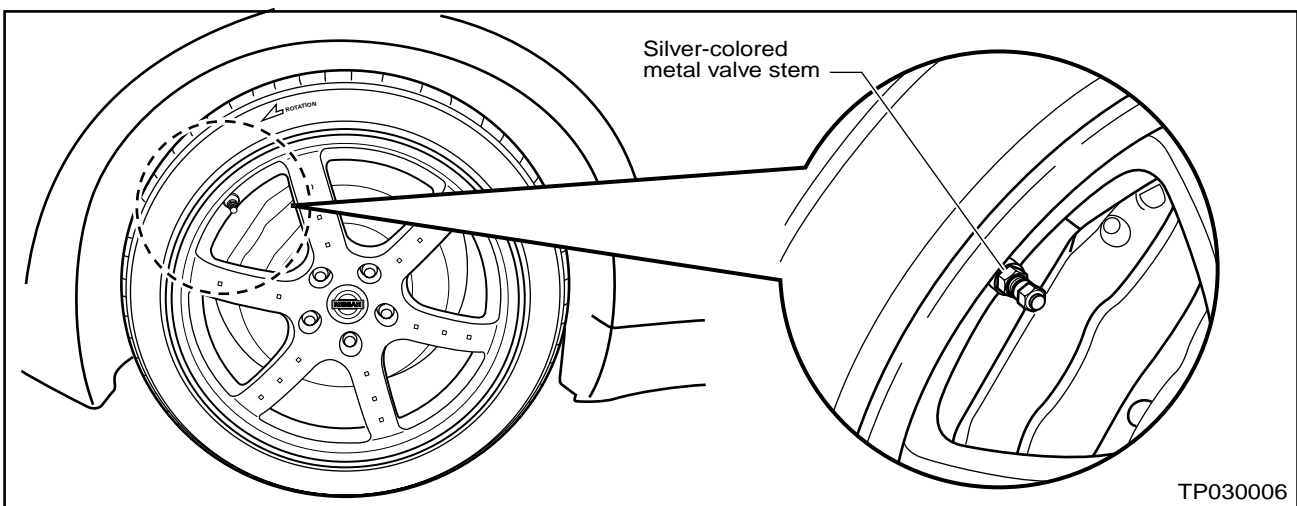

Figure 10
B. If the valve stems are **silver-colored metal-type** (see Figure 10):